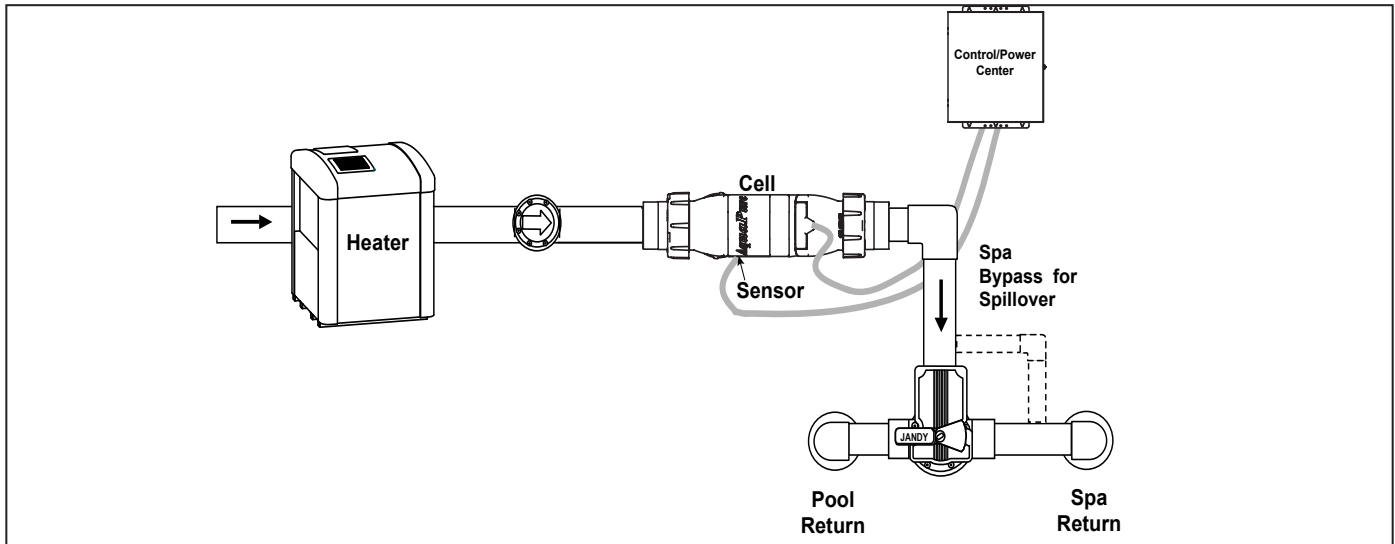

Figure 4. Recommended Plumbing Configuration for Pool/Spa Combination Systems
The preferred installation is that the cell and sensor are plumbed in the common line after (downstream) the heater. The sensor is designed to be plumbed into the 3-port cell. Figure 4 illustrates the recommended plumbing configuration, which results in the most reliable operation.
4. Locate a suitable section of pipe, approximately 17 inches (432 mm) long or follow the recommended plumbing diagrams as shown in Figures 4 and 5. The flow/temp/salinity sensor cable and cell DC cord **must** be able to reach from the power center to this section of pipe.